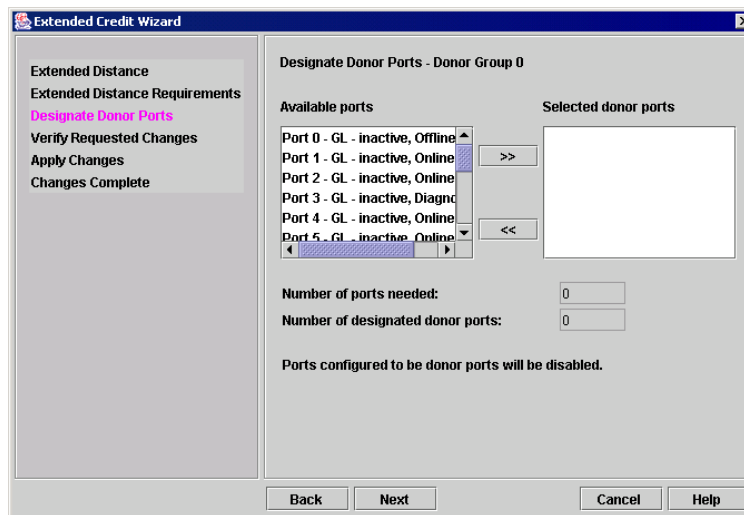

Figure 5-3. Designate Donor Ports
3. Designate Donor Ports: Select available ports and click >> to move the port into the Selected Donor Port column shown in Figure 5-3. Match the number of ports needed with the number of designated donor ports. Click the **Next** button.